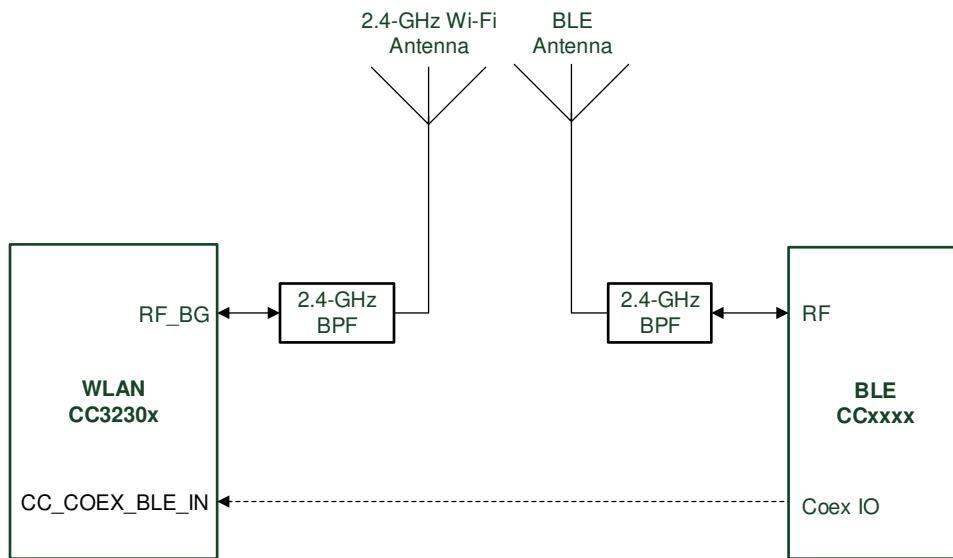

図 9-2. Dual-Antenna Coexistence Mode Block Diagram
- In this mode, (see 図 9-2) the two entities have separate antennas, no RF switch is required, and only a single GPIO (on input from the WLAN perspective).
図 9-2 shows the dual antenna implementation of a complete Bluetooth low energy and WLAN coexistence network. Note in this implementation no Coex switch is required and only a single GPIO from the BLE device to the CC3230x device is required.